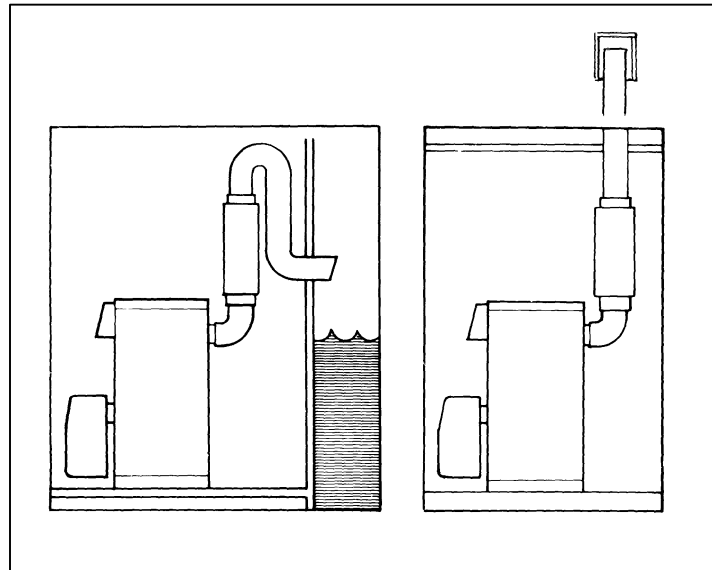

Figure 3
- Make sure that the outlet is positioned at a sufficient height above the waterline. If this is not possible use a swan neck bend in the pipe as in figure 3.
- Install a proper storm cowl on top of the chimney (this must stop rain from entering) (figure 3).